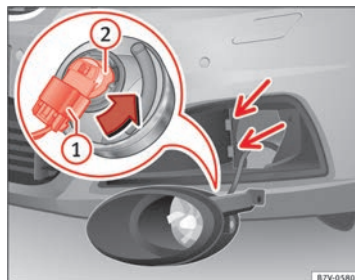

Fig. 210 Changing the bulbs in the headlights.
4. Tilt the headlight slightly forward and extract it from its lateral attachments ⇒ fig. 210 (small arrows).
5. Release the connector ⇒ fig. 210 ① and remove it.
6. Rotate the lamp holder ⇒ fig. 210 ② to the left all the way, in the direction of the arrow, and pull it out backwards with the bulb.
9. Insert the connector ⇒ fig. 210 ① on the lamp holder ⇒ fig. 210 ②. The connector must audibly click into place.
10. Place the headlight into its position ⇒ fig. 210 (small arrows) and tilt it backwards.